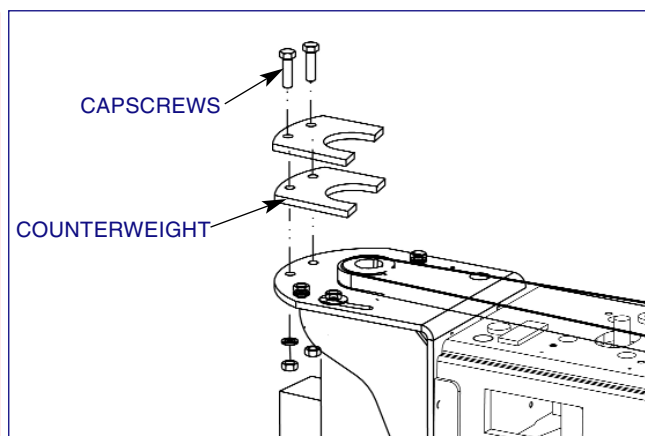

FIGURE 3-1, CV Mandrel Adapter
Depending upon the tool type selected, it may be necessary to add or remove weight from the overarm to allow the overarm to stay up when out of the bore and to make the overarm balanced so it is easy to manually raise and lower. To change weights, proceed as follows (*see Figure 3-1*):
3. Locate Counterweights on rear of Overarm (*refer to Figure 3-1*).